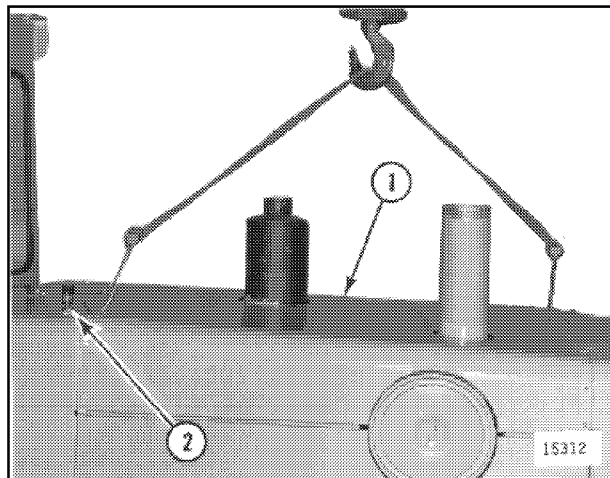

Figure 19
11. Using a suitable lifting device, sling hood top (1, Figure 19) in opposite corners as shown. Remove hood top from grader.
NOTE: If unit is equipped with an air restriction indicator (2, Figure 19), be sure to disconnect the plastic tube leading to it located inside the hood top lip by L.H. hood side.